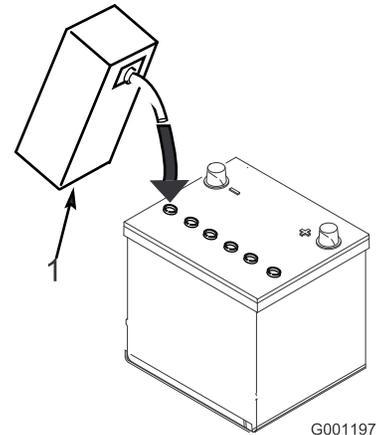

Figure 7
3. Carefully fill each cell with electrolyte until the plates are covered with about 6 mm (1/4 inch) of fluid (Figure 7).
- Allow approximately 20 to 30 minutes for the electrolyte to soak into the plates. Fill as necessary to bring the electrolyte to within about 6 mm (1/4 inch) of the bottom of the fill well (Figure 7).